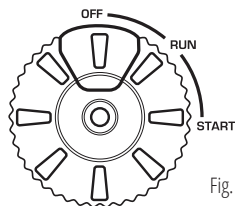

Fig. 1
- 4.2 For electric start, press the red button on the multifunctional engine switch (fig. 1)
5. After starting the engine, turn the Multifunctional engine switch to the “RUN” position (fig. 1).